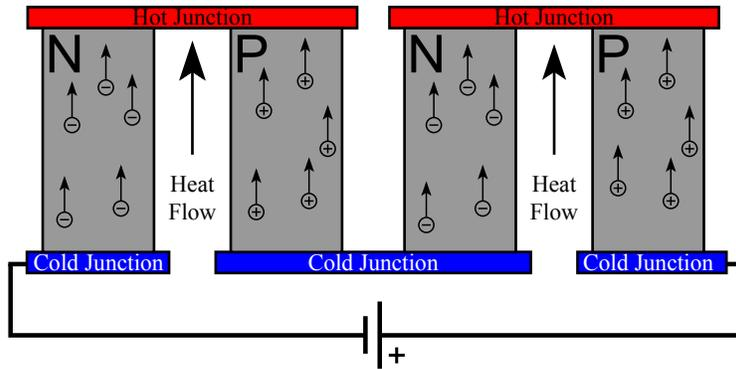
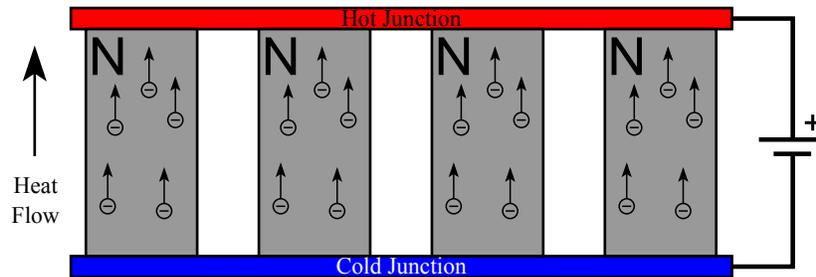

Figure 4: A series of alternating n- and p-type semiconductor elements, which pump heat from bottom to top when a voltage is applied.
Figure 10: n-type Peltier elements are connected in parallel electrically.
individual elements are connected in series using metallic junctions. As a result of this, the junctions between the semiconductors do not form a barrier potential, as they would do in a p-n diode, and charge carriers flow freely in both directions. In a Peltier device, the individual elements are arranged so that the n- and p-type heat flow in the same direction (see Fig. 4).
12. Two Peltier architectures are shown in Fig. 10 and 11 as alternatives to the architecture in Fig. 4. What are the advantages and disadvantages of these two alternative designs?